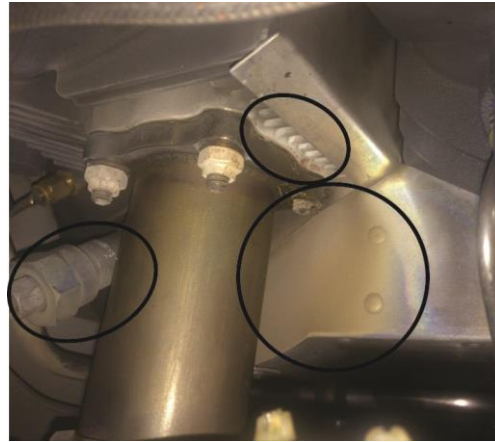

Figure 13
D. Examine all cylinder exhaust flanges (Figure 13) for damage, distortion, or signs of exhaust gas leaking past the gasket, especially at Cylinder 2. Indications of a flange gasket leak are burnt paint around the exhaust flange bosses or powdery white to light brown or black residue near the leaks, on the spark plug, and the baffle. If the flange or pipe is distorted or damaged, document the issue then replace with serviceable parts.